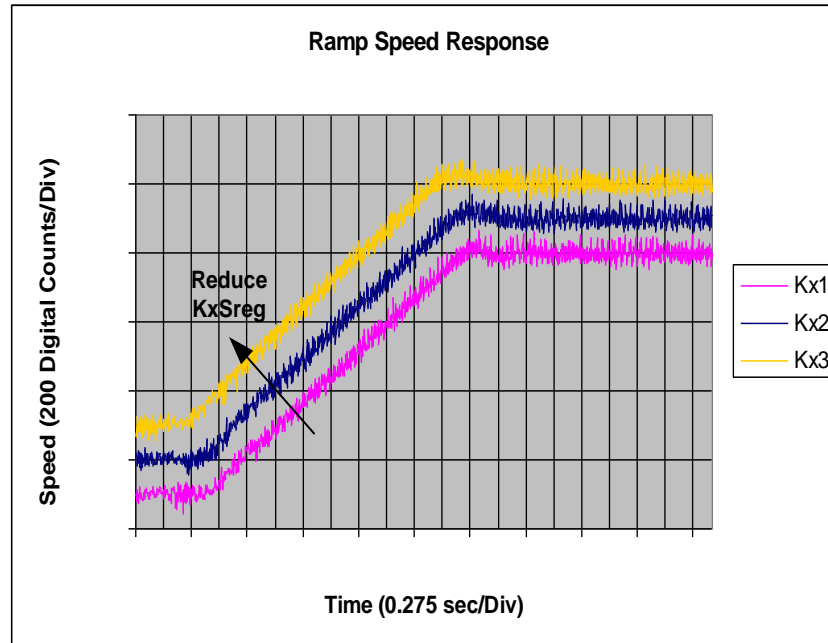

Figure 25—Ramp Speed Response under Different KxSreg Gains
- 2) **Tuning of KxSreg.** After the desired proportional gain (KpSreg) is selected (Step 1), resume the desired ramp rate and speed regulator integral gain (KxSreg). Under such circumstance (with KpSreg = Kp3 and KxSreg = Kx1), issue a ramp speed command over the same speed range as illustrated in Step 1. Figure 25 shows the ramp speed responses under three different integral gains (Kx1, Kx2 and Kx3). The response with the original integral gain (Kx1) exhibits oscillatory behavior. The integral gain is being reduced (Kx2 and Kx3) just enough to remove speed oscillation. For this fan application, the response obtained is acceptable with KxSreg = Kx3.